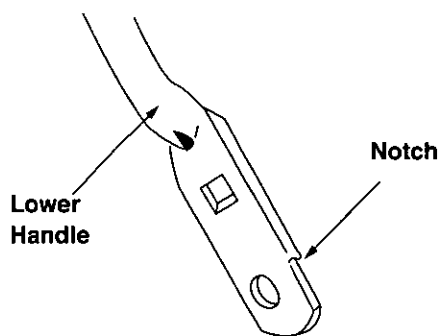

FIGURE 11
- Turn the lower handle around so the notch on the bottom of the lower handle is facing forward as shown in Figure 11. Reassemble, placing the bottom holes in the handle over the weld pins in the handle mounting bracket.